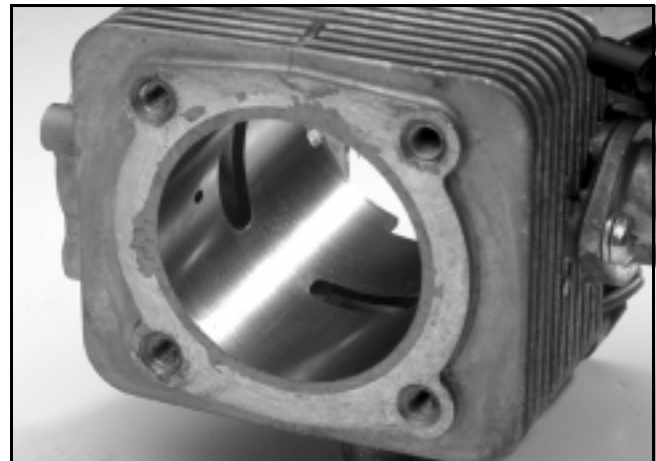

Figure 75
- Inspect the piston and cylinder (see Figure 75). A good piston will show most of the machining marks on the surface. Some things that indicate piston and cylinder damage are: